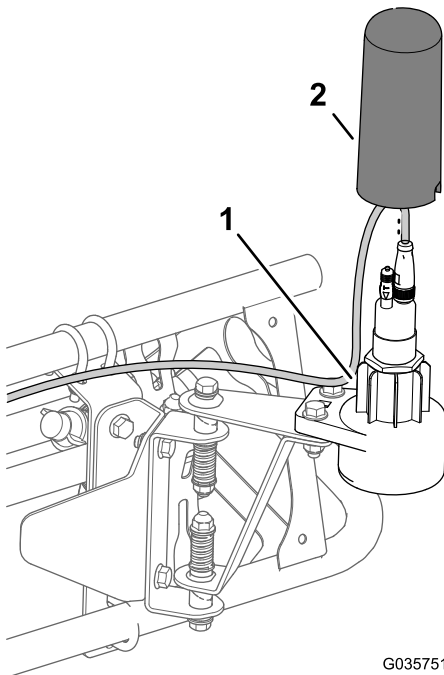

Figure 24
4. Install the upper housing over the sensor and onto the lower housing (Figure 24).